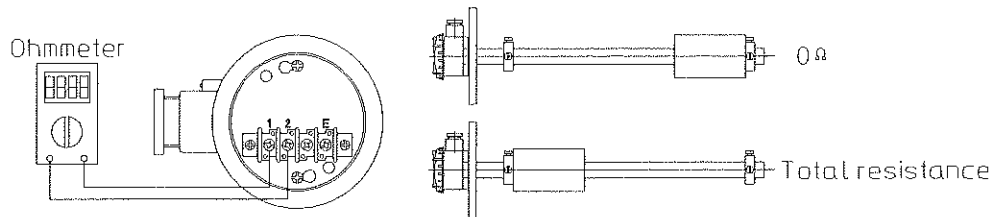

Fig. 8
(3) Sensor operating (See Fig. 8)